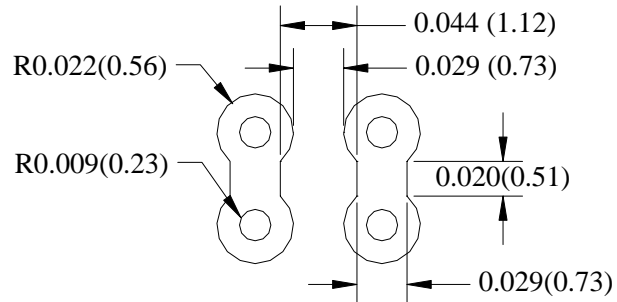

**FIGURE 1, Preferred Fillet**
- 3.2.2.2 Filleting of pads recommended (to be added by fabricator) for 0.000" annular ring, see figure 1.
- See figure 1 for annular ring requirements.